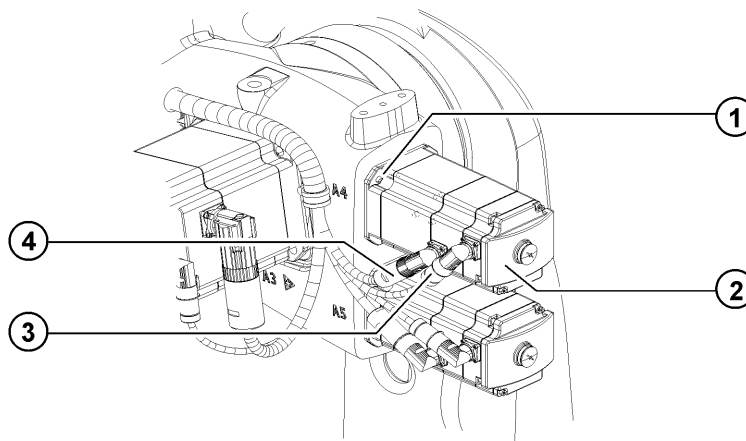

Fig. 11-12: Installing motor A4
7. Clean the mounting surface (>>> Fig. 11-12) for motor A4 on the arm.